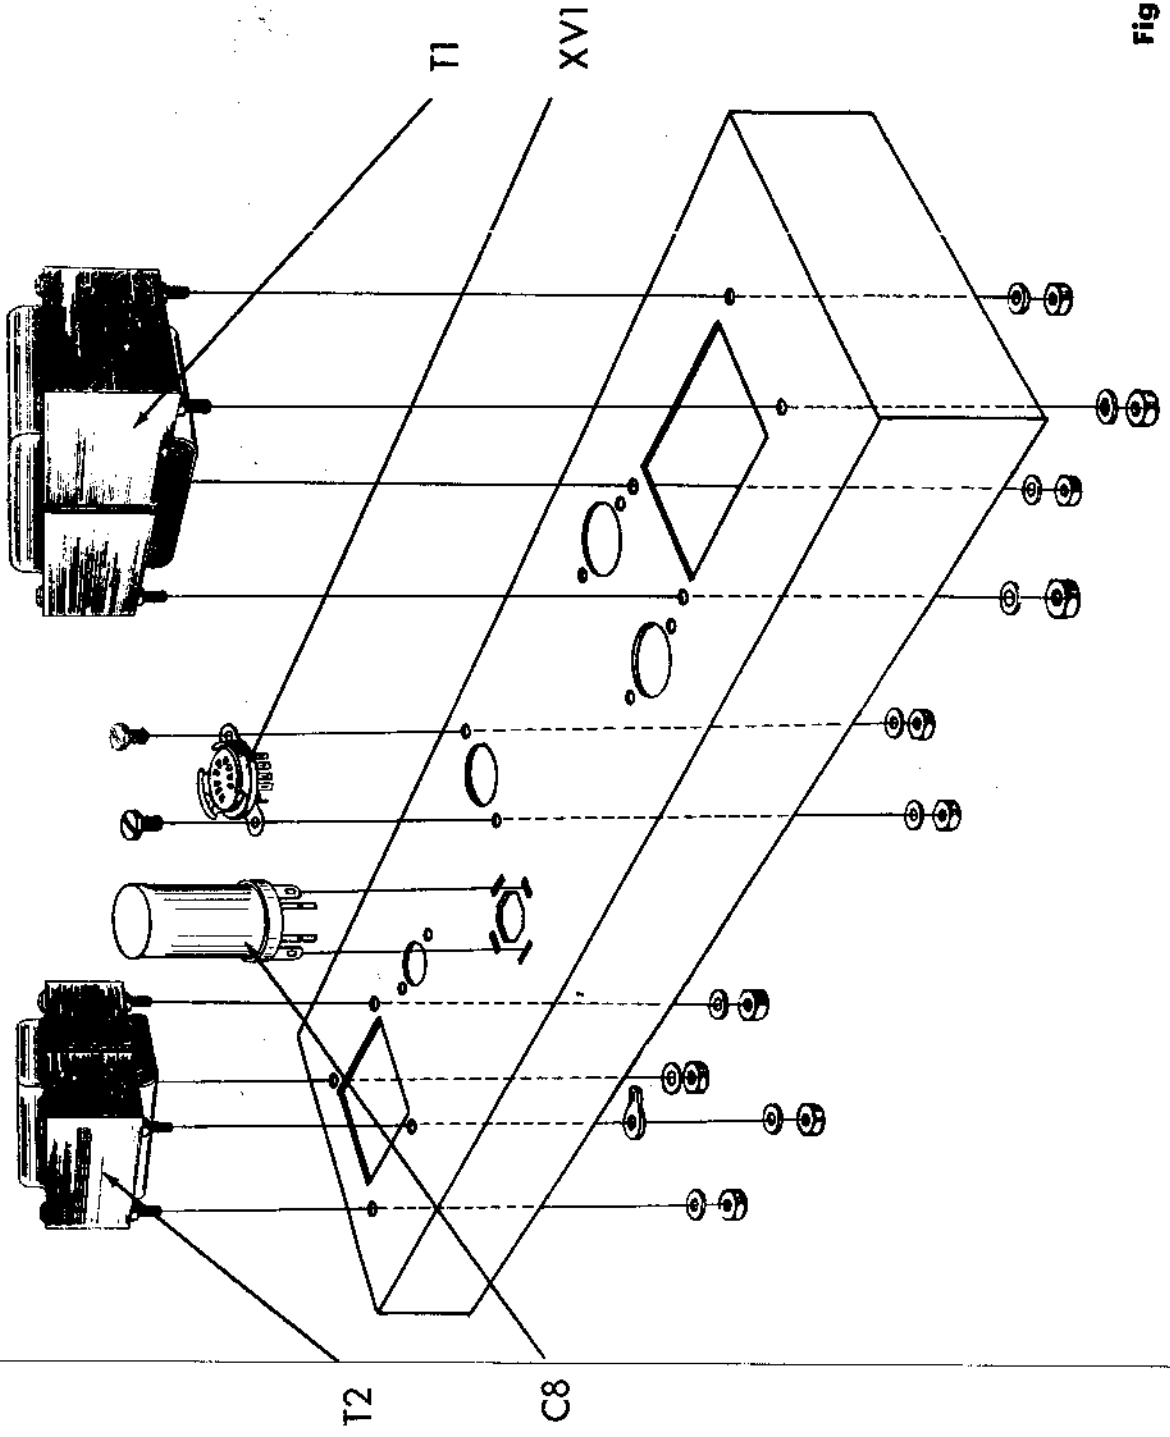
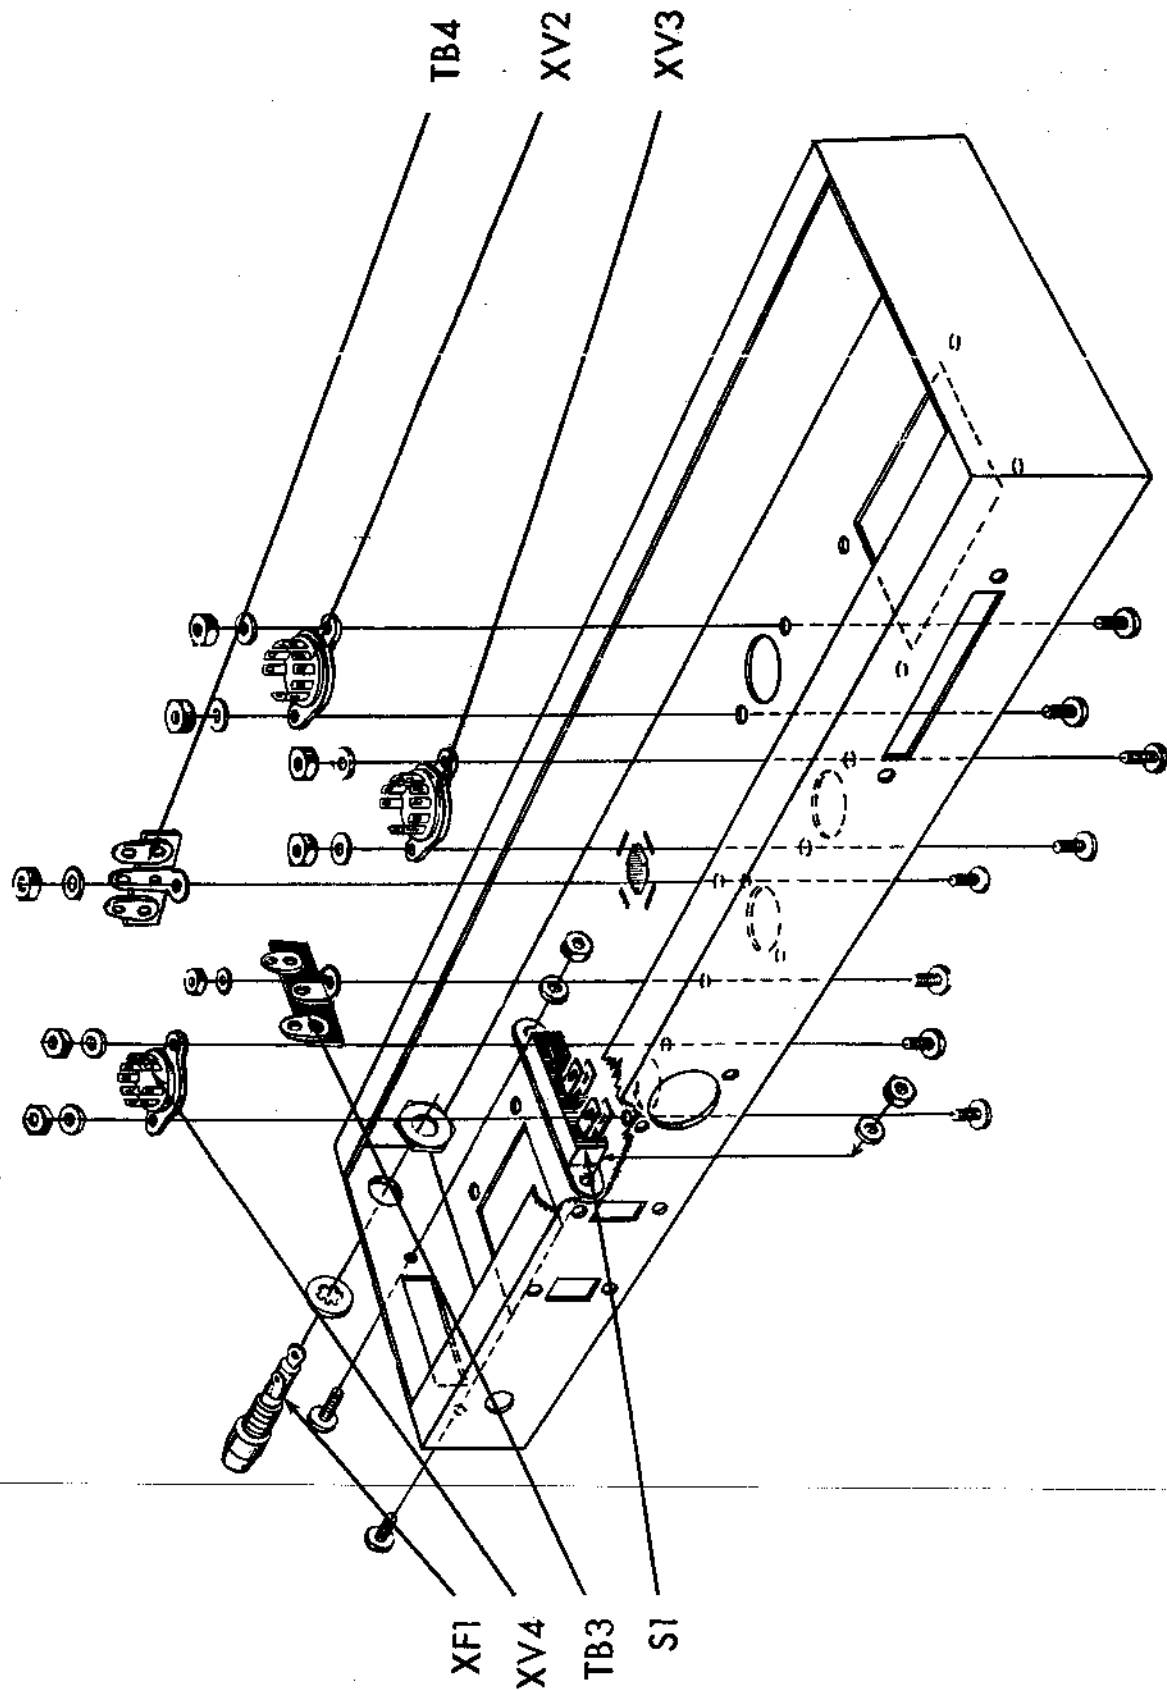
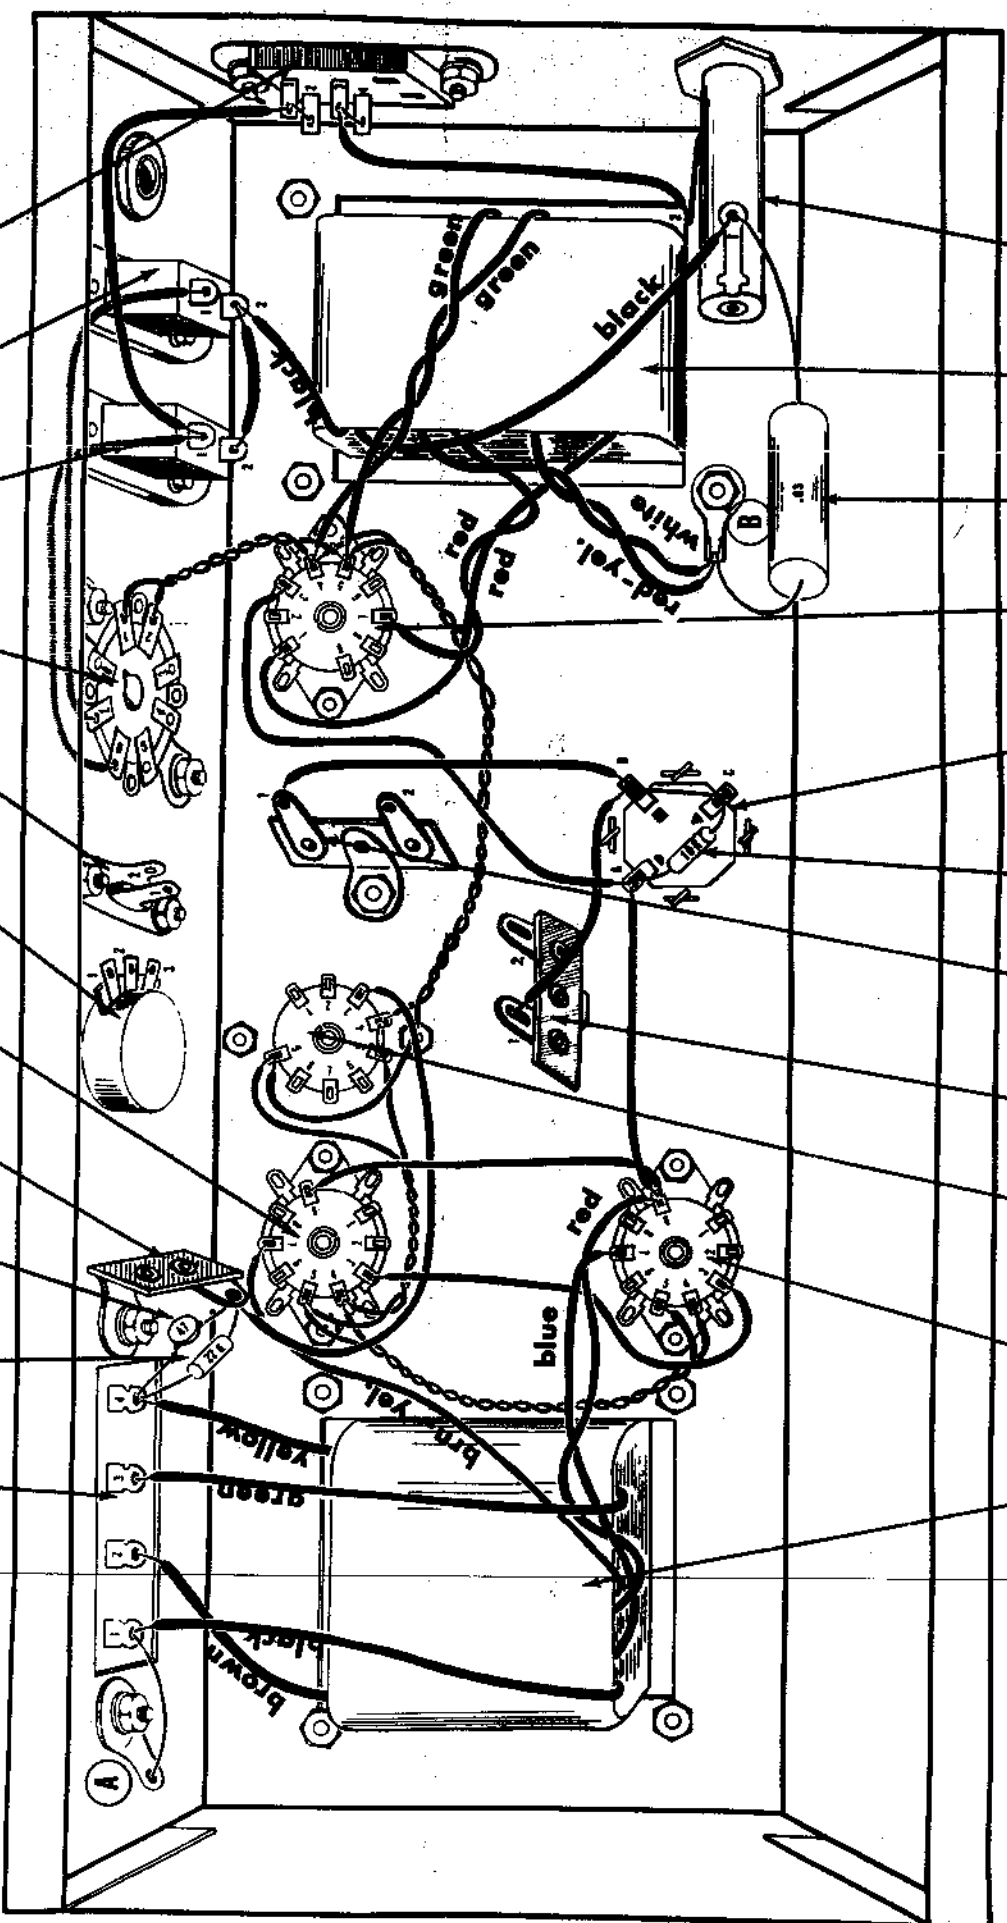

Fig. 1
Fig. 3
Fig. 4
1. ( ) Fig. 1. On the power transformer T2, 30019, cut both red leads to 3", the red-yellow and white leads to 2 1/2" and the two green leads to 3 1/2". Do not cut the remaining leads. Mount the power transformer as shown, with the green leads closest to the side of the chassis (Fig. 4 & 5). Use four #8 lock-washers and four #8-32 hex nuts. Under one of the lockwashers, mount a #8 ground lug as shown in Fig. 4.
2. ( ) Fig. 1. On the output transformer T1, 32005, cut the green lead to 3 1/2", the yellow lead to 1 1/2" and the blue lead to 4 1/2". Do not cut the remaining leads. Mount the output transformer as shown with the brown and the yellow leads closest to the rectangular hole in the side of the chassis (Fig. 4 & 5). Use four #8 lockwashers and four #8-32 hex nuts.
3. ( ) Fig. 1. Mount the 9 pin miniature tube socket with shield support, XV1, as shown. Note direction in Fig. 4. Use two #4-40 screws, two #4 lock-washers and two #4-40 hex nuts.
4. ( ) Fig. 1. Mount electrolytic can capacitor, C8, as shown. Note half-moon, square and triangle near lugs to determine direction of mounting (Fig. 4). Insert the mounting tabs into the slots in the chassis and twist the tabs somewhat less than a quarter turn. DO NOT twist the tabs excessively or they will shear off. Solder the tab without a hole to the chassis at its slot.
3. ( ) Fig. 2. Mount the input jack J1, as shown (Fig. 4). Use two #6-32 screws, two #6 lockwashers and two #6-32 hex nuts.
4. ( ) Fig. 2. Mount the octal socket, J4, as shown. Note direction of key in Fig. 4. Use two #6-32 screws, two #6 lockwashers and two #6 hex nuts.
1. ( ) Fig. 3. On the side of the chassis mount the slide switch S1, as shown. (Fig. 4). Use two #4-40 screws, two #4 lockwashers and two #4 hex nuts.
2. ( ) Fig. 3. Mount fuseholder XF1 as shown. Use large rubber washer outside the chassis. Tighten to chassis with hex nut supplied. Do not tighten too much or holder will crack.
3. ( ) Fig. 3. Mount the tube sockets XV2, XV3, and XV4 as shown (Fig. 4). Use two #4-40 screws, two #4 lockwashers and two #4-40 hex nuts on each.
4. ( ) Fig. 3. Mount the two post terminal board TB3, and the two post terminal board, TB4 as shown. Use one #6-32 screw, one #6 lockwasher and one #6-32 hex nut on each.
1. (✓) Fig. 4. Connect a 1" piece of bare wire from TB1-1 (C) to ground lug "A" (S1).
2. (✓) Fig. 4. From output transformer T1, connect the black lead to TB1-1 (S2), the brown lead to TB1-2 (S1), the yellow lead to TB1-4 (C) and the brown-yellow lead to XV3-7 (S1). Twist the blue and red leads together. Connect the red lead to XV2-9 (C) and the blue lead to XV2-7 (S1). Connect the green lead to TB1-3 (S1).
3. (✓) Fig. 4. Cut both leads on a 22KΩ (red, red, orange, gold) 5% resistor, R11, to 1/2". Connect from TB1-4 (C) to TB2 (C).
4. (✓) Fig. 4. Cut both leads on a 47 mfd disc capacitor, C7, to 3/4". Connect from TB1-4 (S3) to TB2 (C).
5. (✓) Fig. 4. Connect one end of a 3" piece of yellow wire to XV2-4 (S1) and one end of a 3" piece of brown wire to XV2-5 (S1). Twist the two leads together and run along the chassis as shown. Connect the other end of the yellow wire to XV3-4 (C) and the other end of the brown wire to XV3-5 (C).
6. (✓) Fig. 4. Connect one end of a 3" piece of yellow wire to XV3-4 (S2) and one end of a 3 1/2" piece of brown wire to XV3-5 (S2). Twist the two leads together and run along the chassis as shown. Connect the other end of the brown wire to XV1-9 (C) and the other end of the yellow wire to XV1-5 (C).
7. (✓) Fig. 4. Connect a 1/2" piece of bare wire from XV1-5 (S2) to XV1-4 (C).
8. (✓) Fig. 4. Connect one end of a 5 1/2" piece of brown wire to XV1-9 (S2) and one end of a 5" piece of yellow wire to XV1-4 (S2). Twist the two leads together and run along the chassis as shown. Connect the other end of the brown wire to XV4-5 (C) and the other end of the yellow wire to XV4-4 (C).
9. (✓) Fig. 4. From the power transformer T2, twist the two green leads together. Connect one lead to XV4-4 (C) and the second green lead to XV4-5 (C).
10. (✓) Fig. 4. Connect one end of a 2" piece of brown wire to XV4-5 (S3) and one end of a 2" piece of yellow wire to XV4-4 (S3). Twist the leads together and connect to the other end of the brown wire to J4-2 (S1) and the other end of the yellow wire to J4-1 (S1).
11. (✓) Fig. 4. From the power transformer T2, twist the two red leads together. Connect the shorter red lead to XV4-7 (S1) and the longer red lead to XV4-1 (S1).
12. (✓) Fig. 4. Connect a 1 1/2" piece of black wire from J2-2 (S1) to J3-2 (C).
13. (✓) Fig. 4. Connect a 3/4" piece of bare wire from S1-1 (C) to S1-2 (S1).
14. (✓) Fig. 4. Connect a 3/4" piece of bare wire from S1-3 (C) to S1-4 (S1).
15. (✓) Fig. 4. Connect a 2" piece of black wire from S1-3 (S2) to XF1-2 (S1).
16. (✓) Fig. 4. Connect a 3 1/2" piece of black wire from J2-1 (C) to J4-6 (S1).
17. (✓) Fig. 4. Connect a 5" piece of black wire from J3-1 (C) to J4-7 (S1).
18. (✓) Fig. 4. Connect a 4" piece of black wire from S1-1 (S2) to J2-1 (S2).
19. (✓) Fig. 4. From the power transformer T2, twist the red-yellow and white leads together. Connect both leads to ground lug "B" (C).
20. (✓) Fig. 4. From the power transformer T2, connect one black lead to J3-2 (C) and the other black lead to XF1-1 (C).